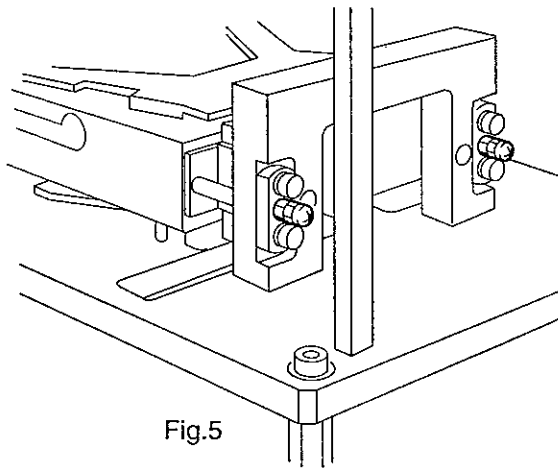
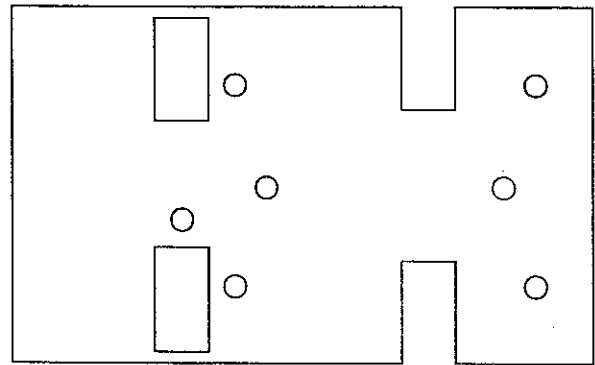

Fig.5
Fig 6
step 6. Attach the force motor assembly to the alignment fixture (2 screws on the front, Fig 5 and 4 on the bottom, Fig 6).